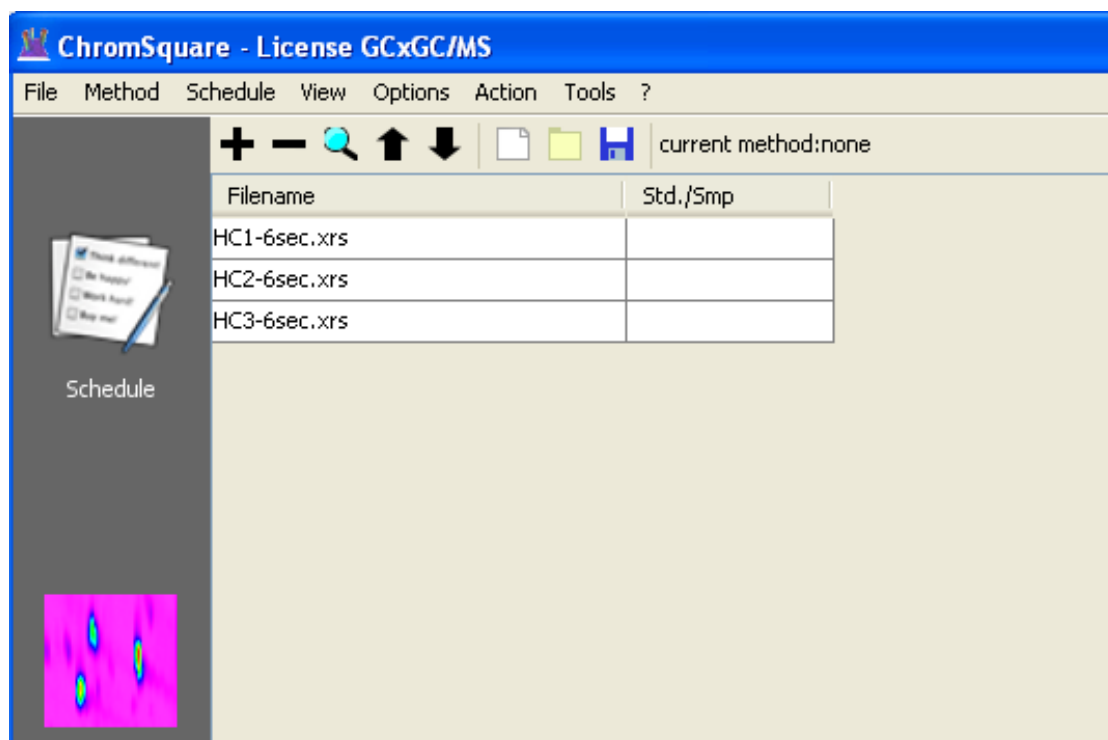
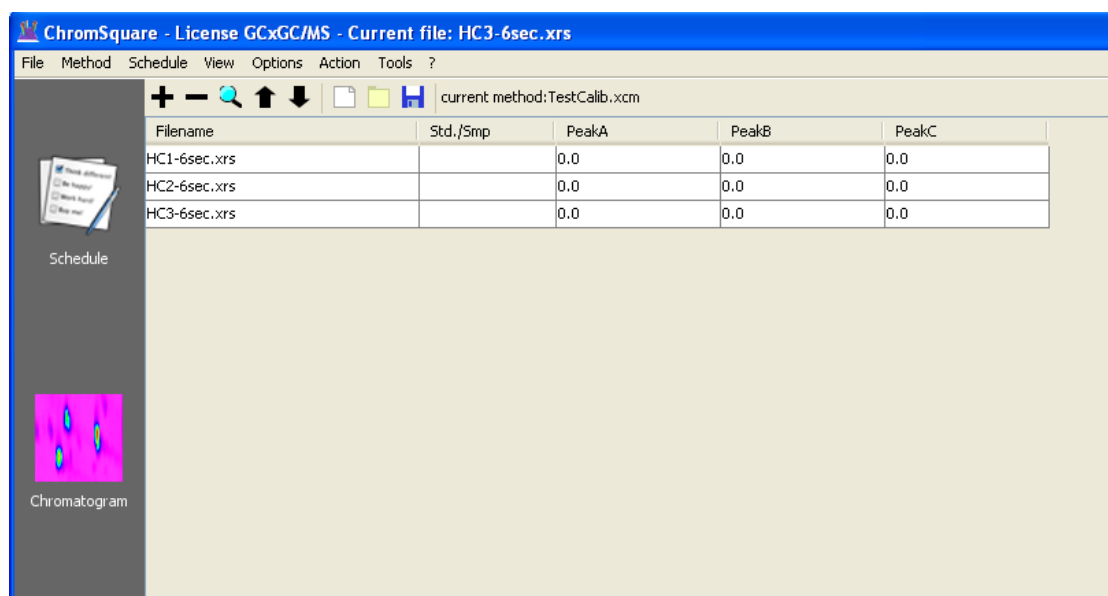
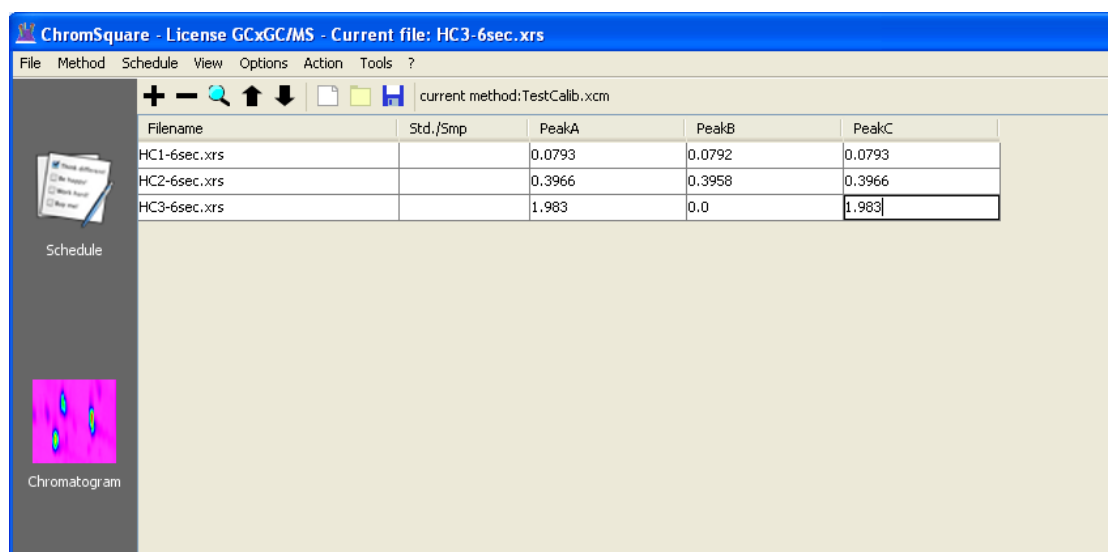

Figure 5.2: The Schedule Panel before loading a Method
Figure 5.3: The Schedule Panel after loading a Method
Figure 5.4: The Schedule Panel after the assignment of the Concentrations
2. As long as chromatograms are added to the schedule list, new rows are added to the table, reporting the chromatogram filename in the first column of the table, leaving for the moment empty the Standard-Sample option of the second column; see Figure 5.2.
The various steps of the process are shown in Figure 5.2, Figure 5.3, Figure 5.4.